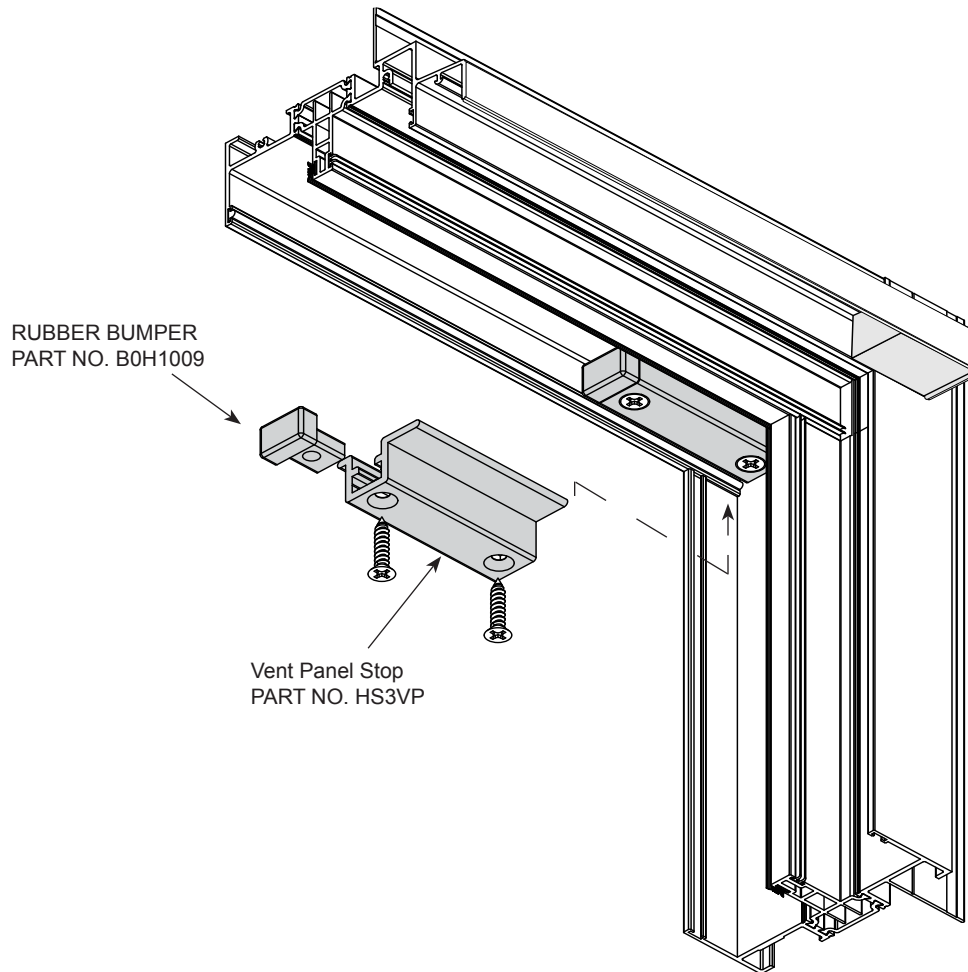

FIG. 39
1. Insert door bumper stop into the head channel touching the jamb. (FIG. 39)
4. Refer to instructions to install bumper. (FIG. 39 on page 18)